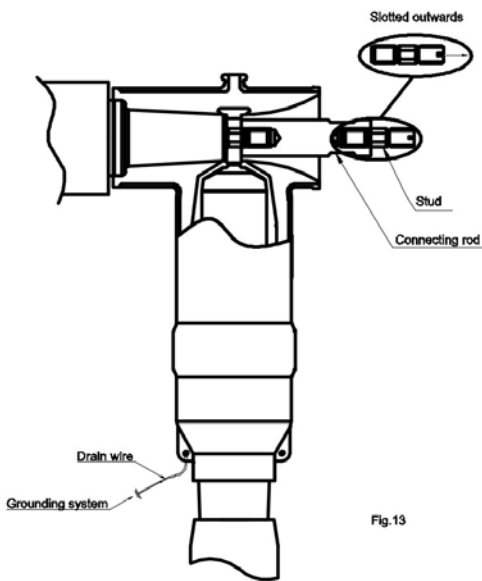

Fig.13
**Step 3.** Tighten the rod and stud assembly to approximately 50-55 Nm, using a 27 mm open end wrench. (See Fig. 13) (Slotted outwards)